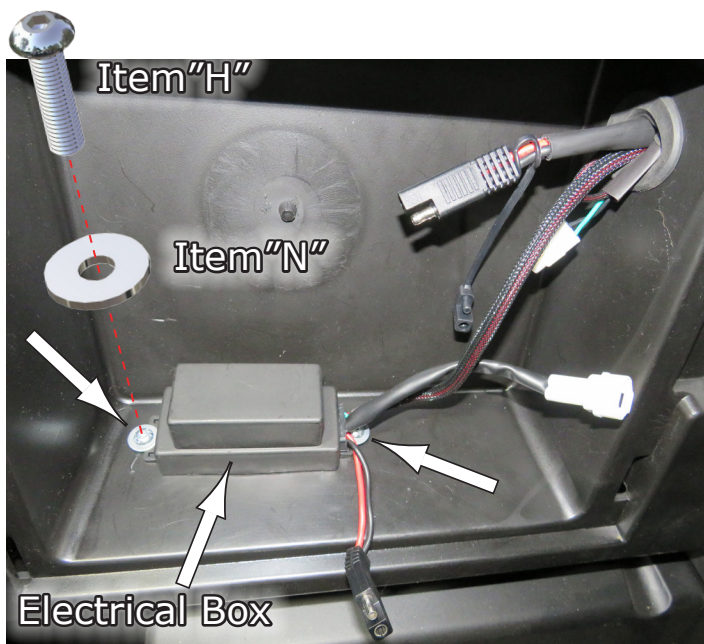

Fig.9a
9. You will mount the **Electrical Box** using the **M5x20 Button Head, Item "H"**, **M5 Washer, Item "N"** and **M5 Nylock Nut, Item "O"** provided in your kit. You will need to drill thru the plastic after you mark the screw locations. Fig.9a shows the general area to mount the box.